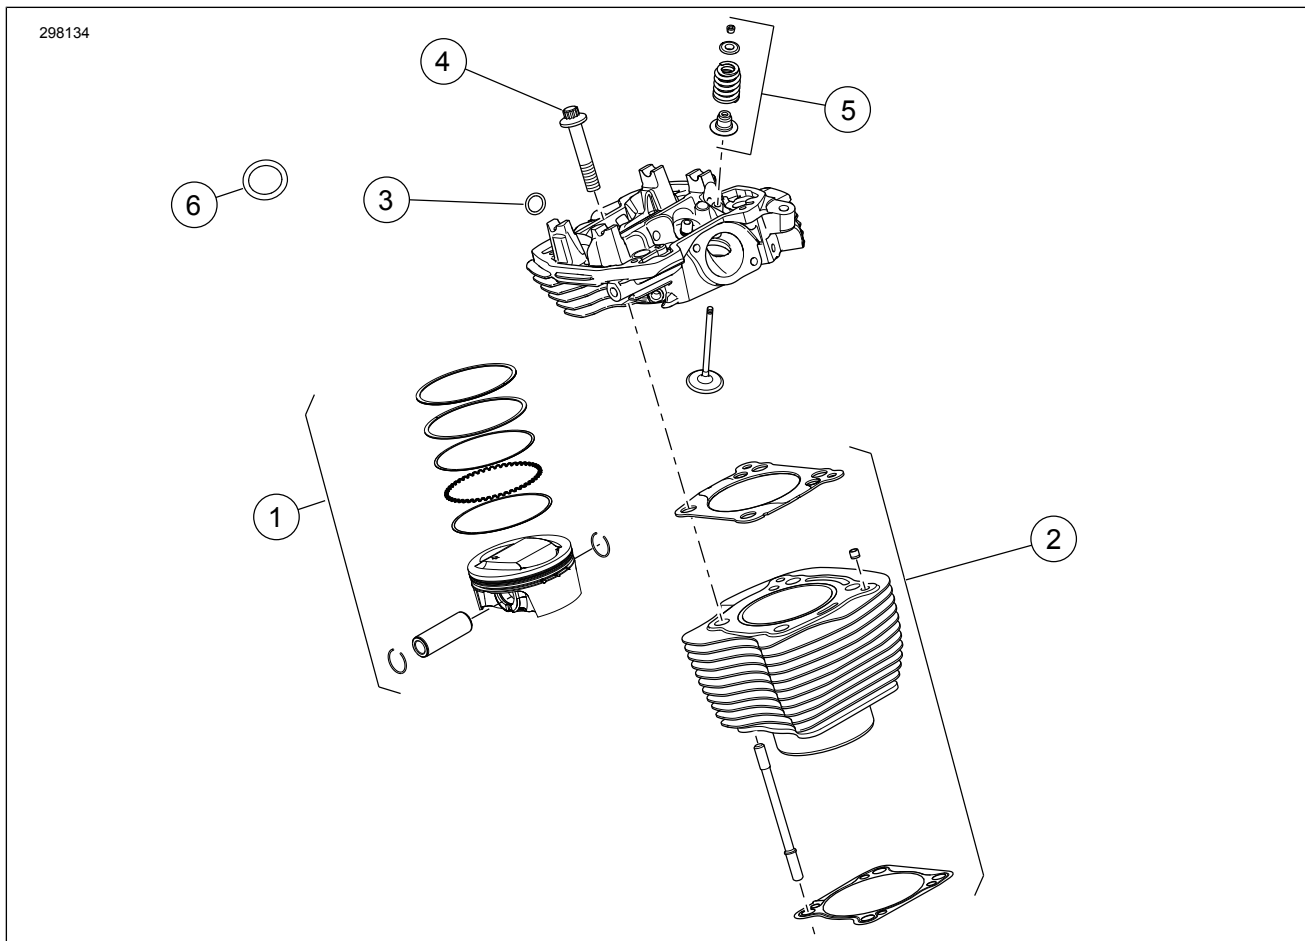
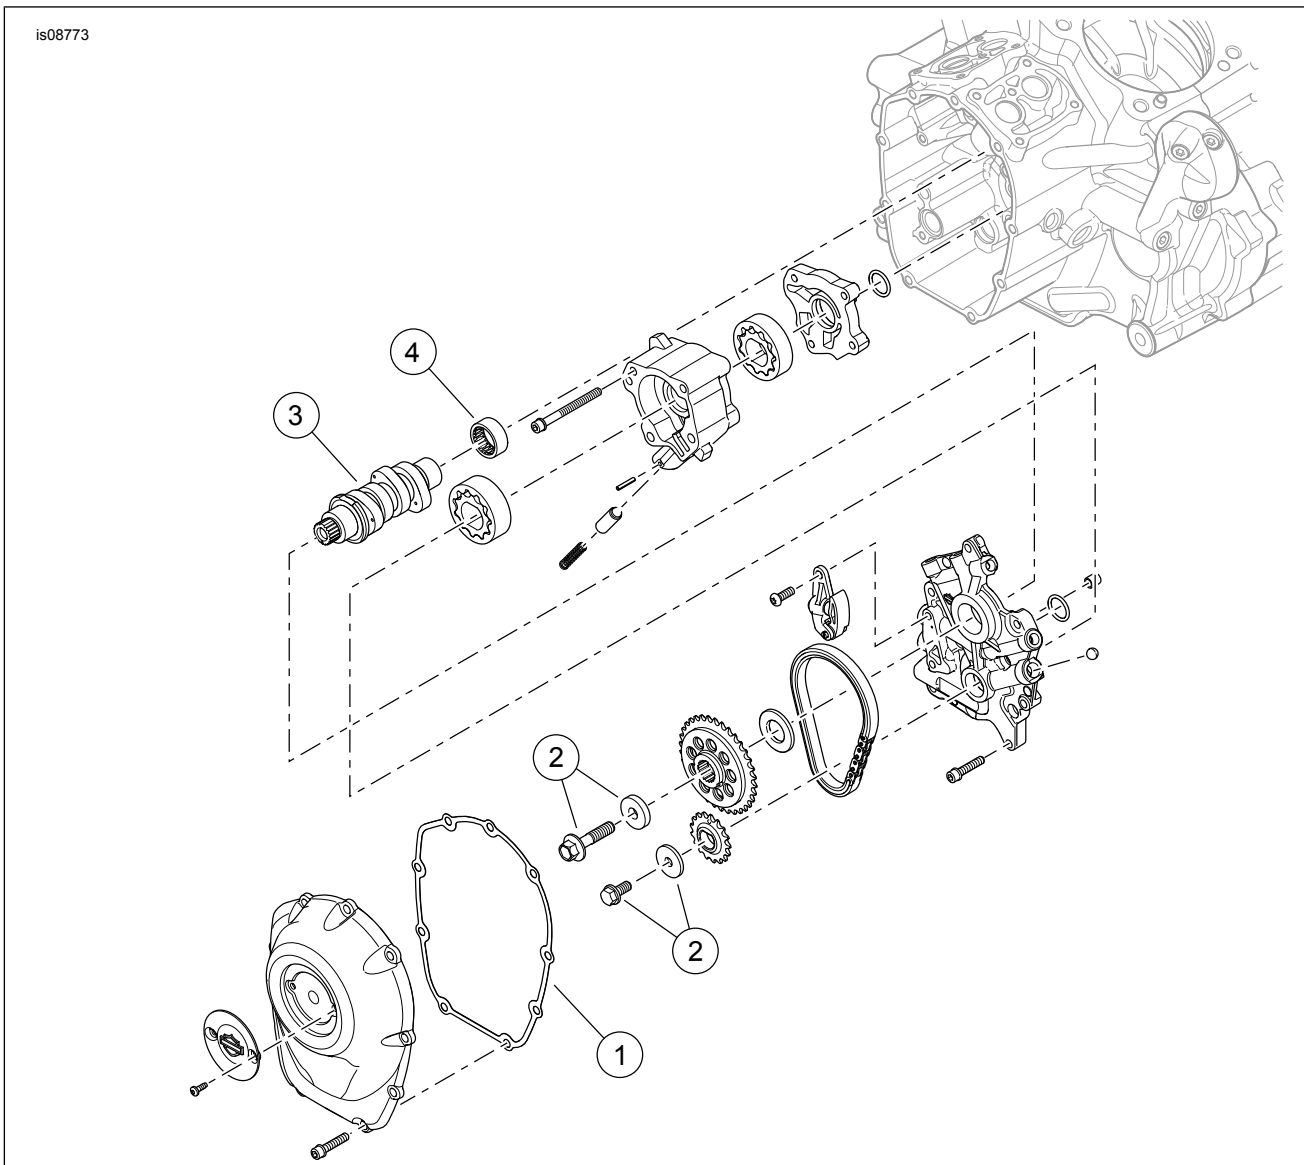

Figure 1. Service Parts: Screamin' Eagle Milwaukee-Eight Stage 3 Kit
Figure 3. Service Parts: Screamin' Eagle Milwaukee-Eight Stage 3 Kit
See Figure 1 to Figure 3, and Table 1 to Table 3.
2. See Figure 3. Install camshaft needle bearing (4).
3. See Figure 1 through Figure 3 Install camshaft into engine and reassemble cam plate. Refer to appropriate ENGINE sections in service manual.